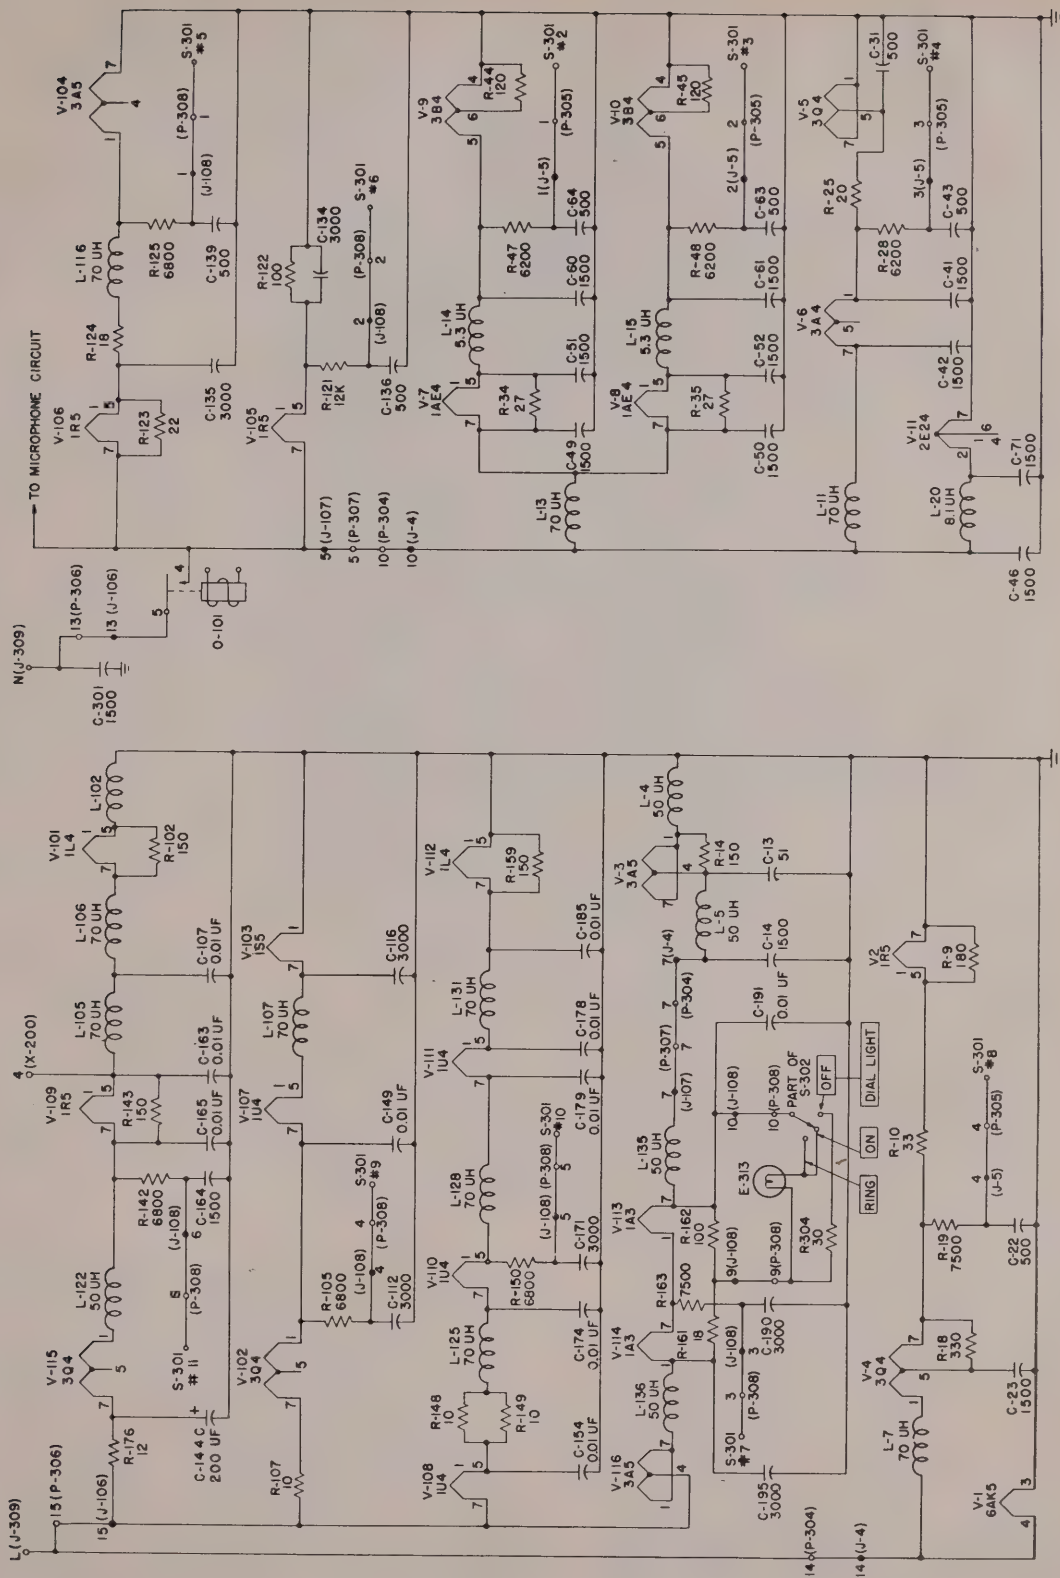

Figure 42. Filament circuit, schematic diagram.
- (1) If the operation is normal, the lamp is defective and must be replaced.
- (2) If operation is still abnormal, check the filament circuits (*d* below and fig. 42).